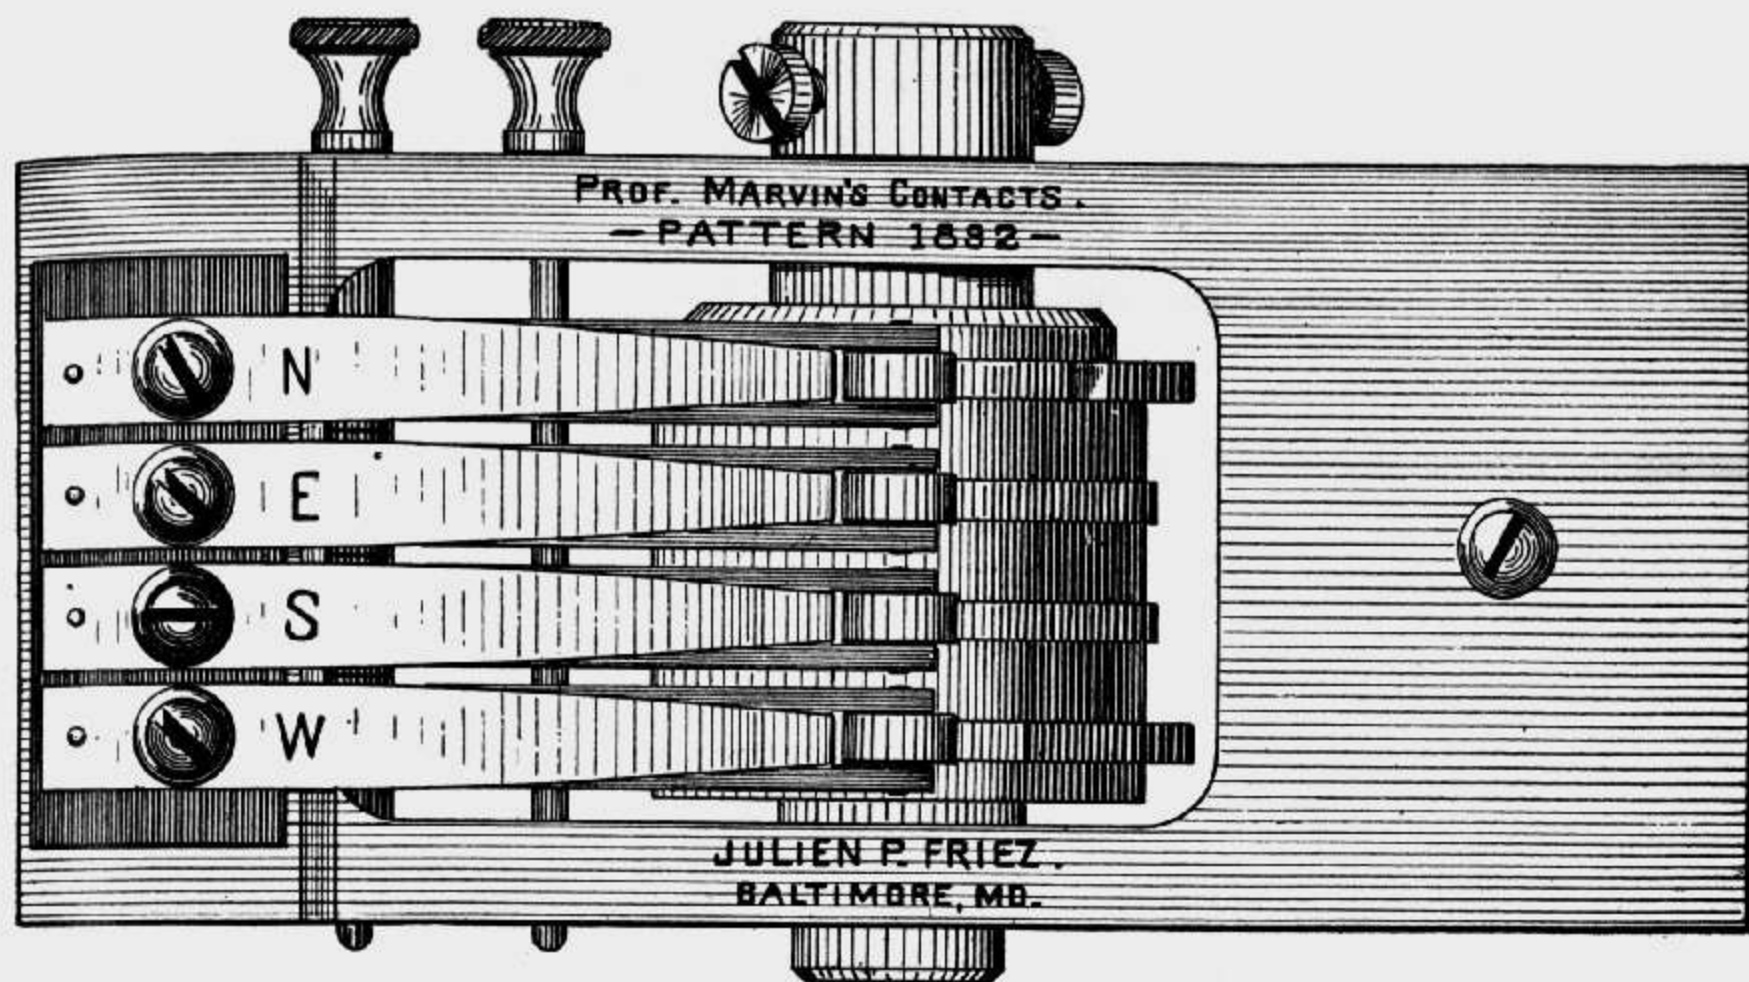
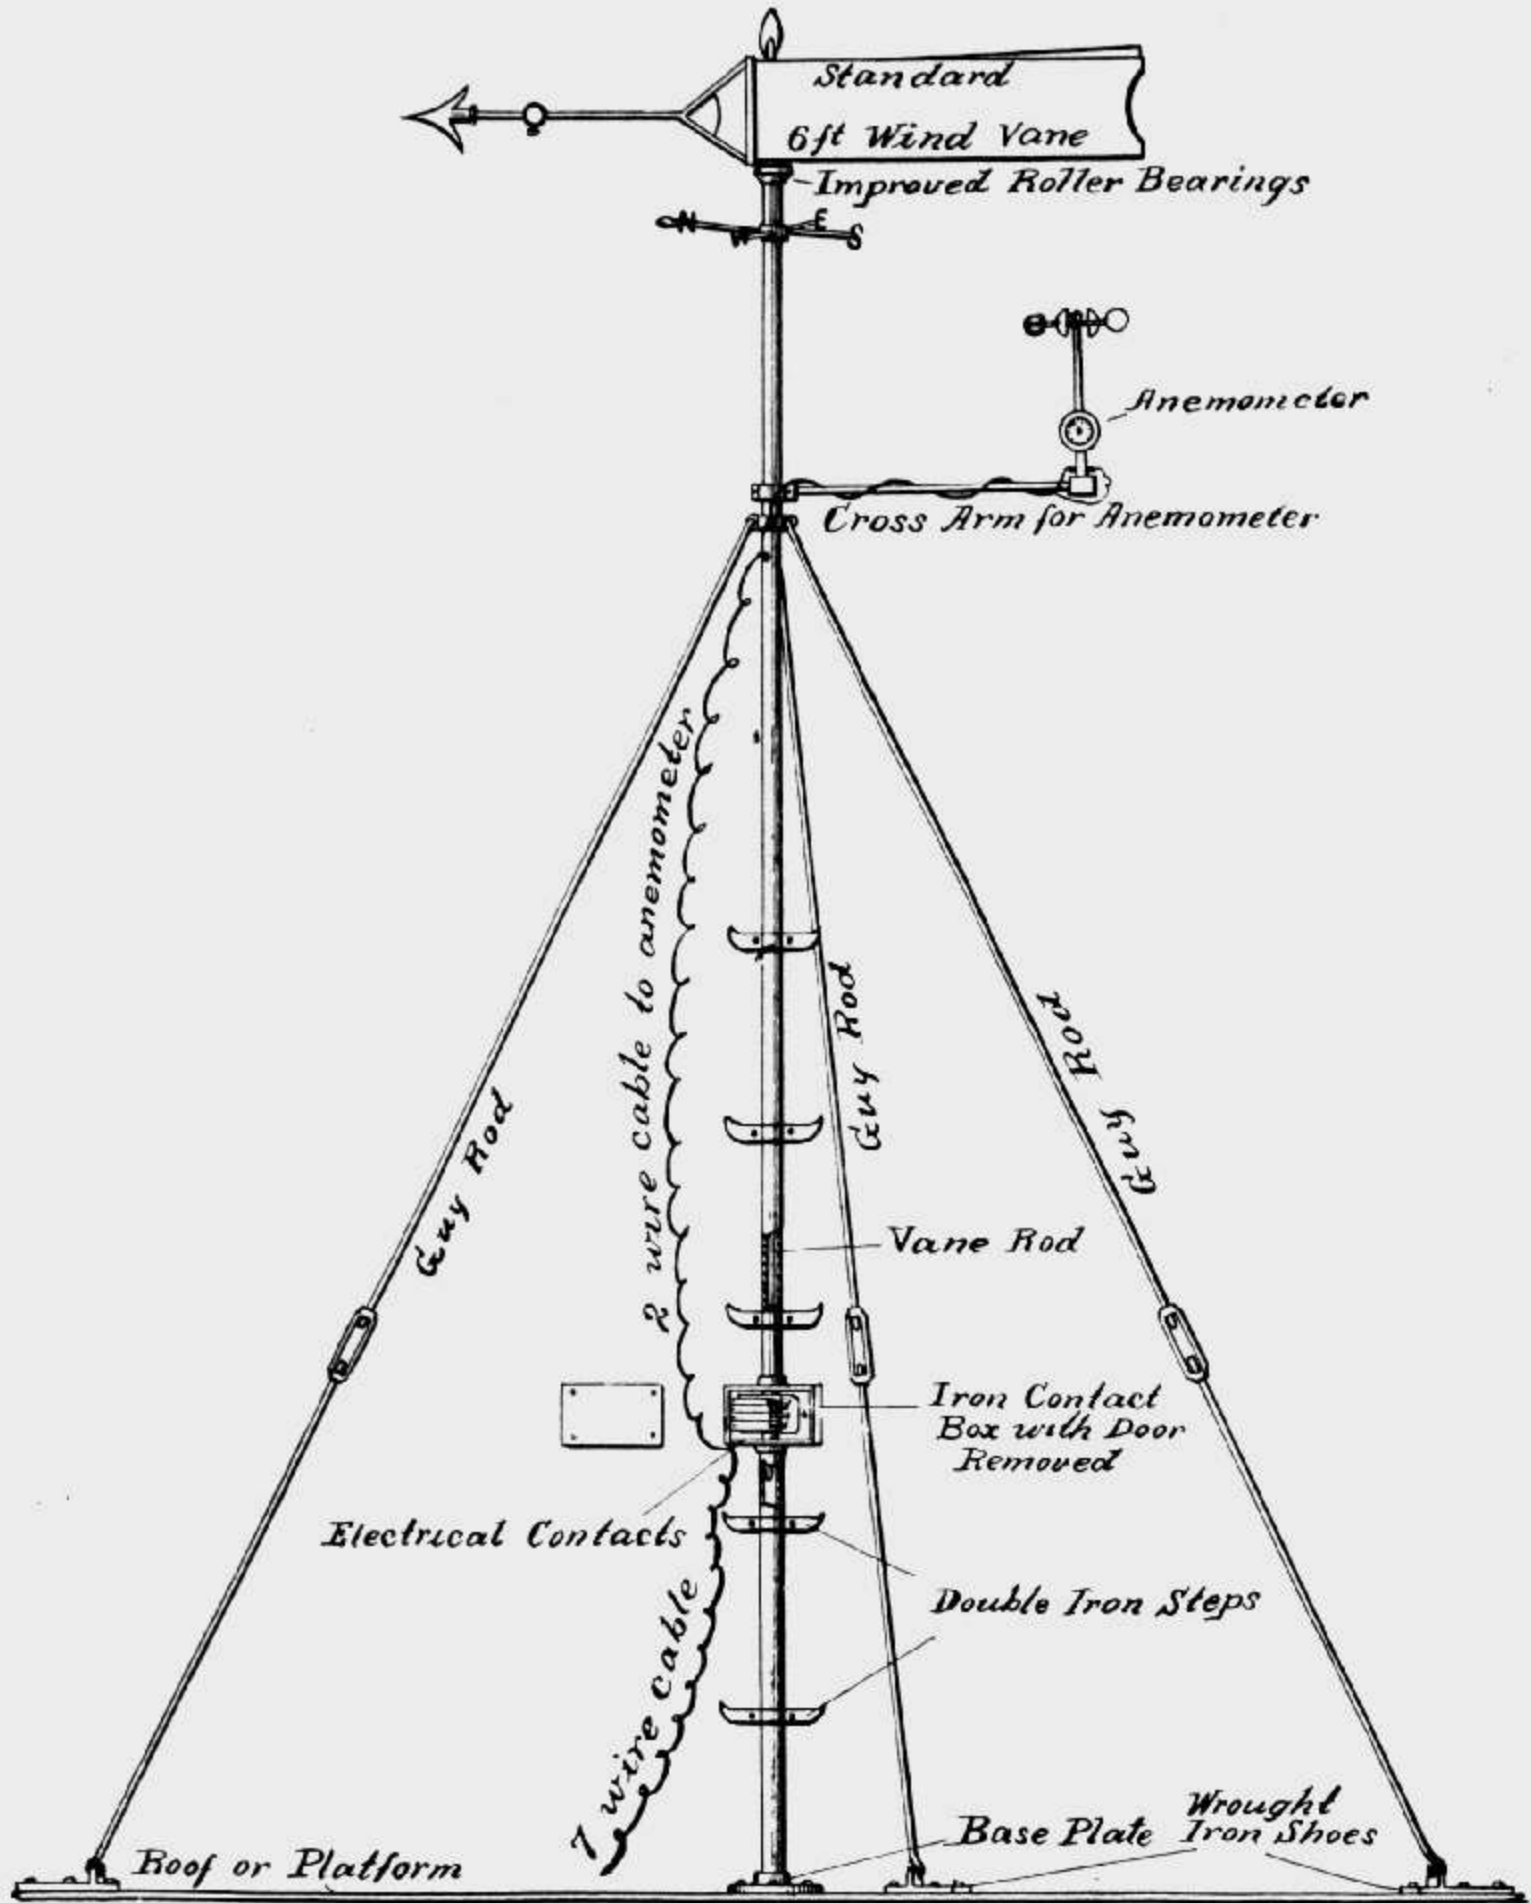

Fig. 5.
Fig. 6.
Fig. 5 is an illustration, front view, of the very latest Weather Bureau pattern electrical contacts for wind direction. This apparatus is now made complete in itself, that is, the parts are all rigidly mounted together on a suitable brass frame, which makes it unnecessary to obtain the rather difficult vertical adjustment of the cam collars on the vane rod, required with the old style contacts. These new contacts also contain the latest improvement for reducing friction to a minimum, and if a wind vane is properly erected on improved roller bearings, these contacts will not retard the movements of the vane even in the lightest winds. The contact plate is simply secured at each end by suitable set-screws through the sides of the iron contact box. After the vane and cams are properly and accurately adjusted to each other, and so that the electrical contacts are correctly made for each of the eight points of the compass, as determined by experiment, the cams are securely clamped to the rod leading from the vane. This inside rod is made of  $\frac{1}{2}$ -inch iron pipe, and its proper position within the support is fully shown in Fig. 6, which also shows the iron contact box (with door removed) and the electrical contacts in place.
1. Combined Wind-vane and Anemometer Support, complete, as shown in Fig. 6, *except* Anemometer and wire cable; support 14 ft. high; standard 6-ft. wind-vane with improved roller bearings, contact box and electrical contacts, 6 iron steps, adjustable guy rods, cross-arm for Anemometer, wind-direction arms, &c., nicely painted and finished; arrow-heads, &c., gilded,\* price...\$